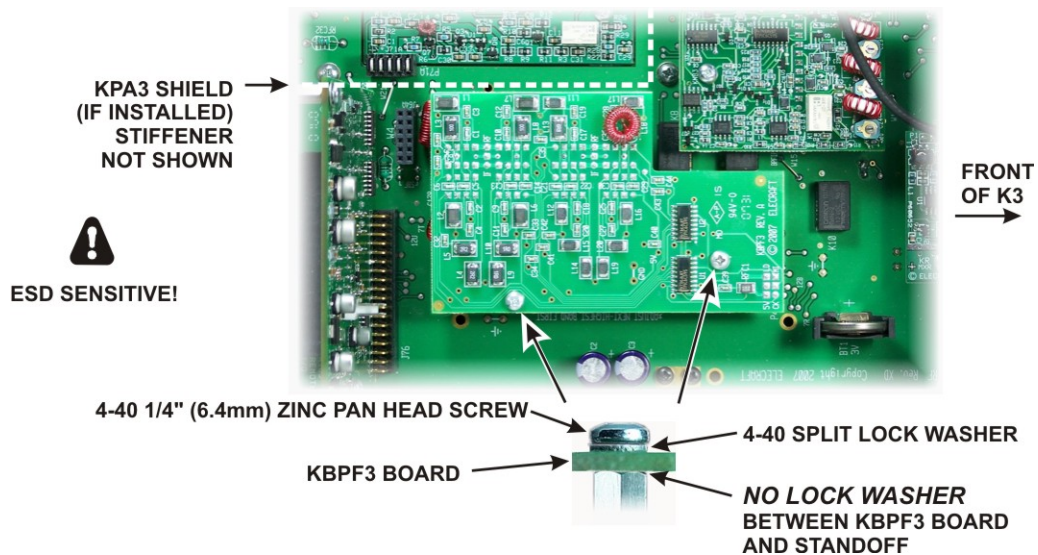

Figure 88. Installing the KBPF3 Option Board.
□ Install the board on the standoffs you installed earlier as shown in Figure 88. The screws and lock washers needed are supplied with your KBPF3 Option kit. There are three connectors on the bottom of the KBPF3 board that must be properly mated to P44A, P44C and P44E on the RF board. Even though the connectors are hard to see if they KPA3 shield is installed, they can be aligned as follows: